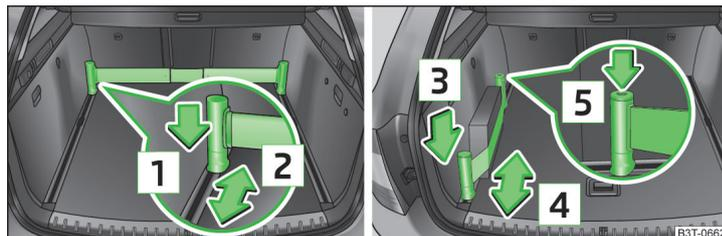

Fig. 117 Telescopic pole and tensioning strap
Press the top part of the holder in the direction of the arrow **1** » Fig. 117 and simultaneously push in the desired position in the direction of the arrow **2**.
- Press the holder in the direction of the arrow **3** » Fig. 117 and simultaneously push in the desired position in the direction of the arrow **4**.
- The tensioning strap can also be fully reeled up by pressing the button **5** » Fig. 117.